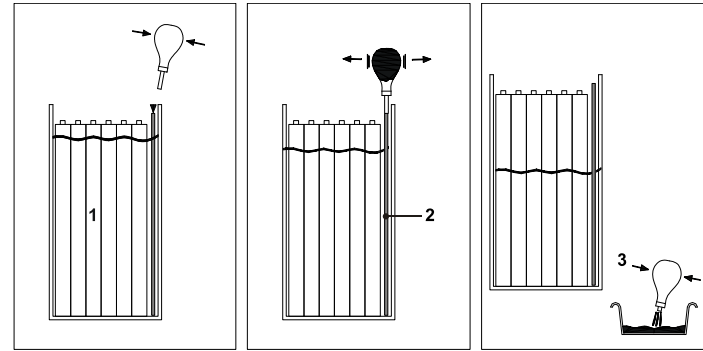

Figure 6-7. Draining the Water
- Drain the water that can accumulate at the bottom of the container (electrolyte overflow, leak in the filling circuit, battery cleaning...). Use the bulb supplied with the machine to drain the water as shown in the Figure 6-7.